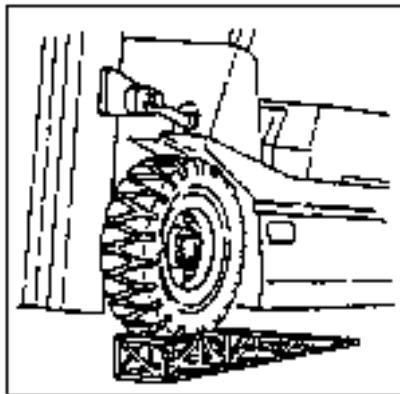

Fig. 8.6
- (5) make sure that the fork departs from the outer mast, then reverse the forklift.
- (6) Replace the main roller.
8.5.4 Replace the mast roller (see figure 8.6)